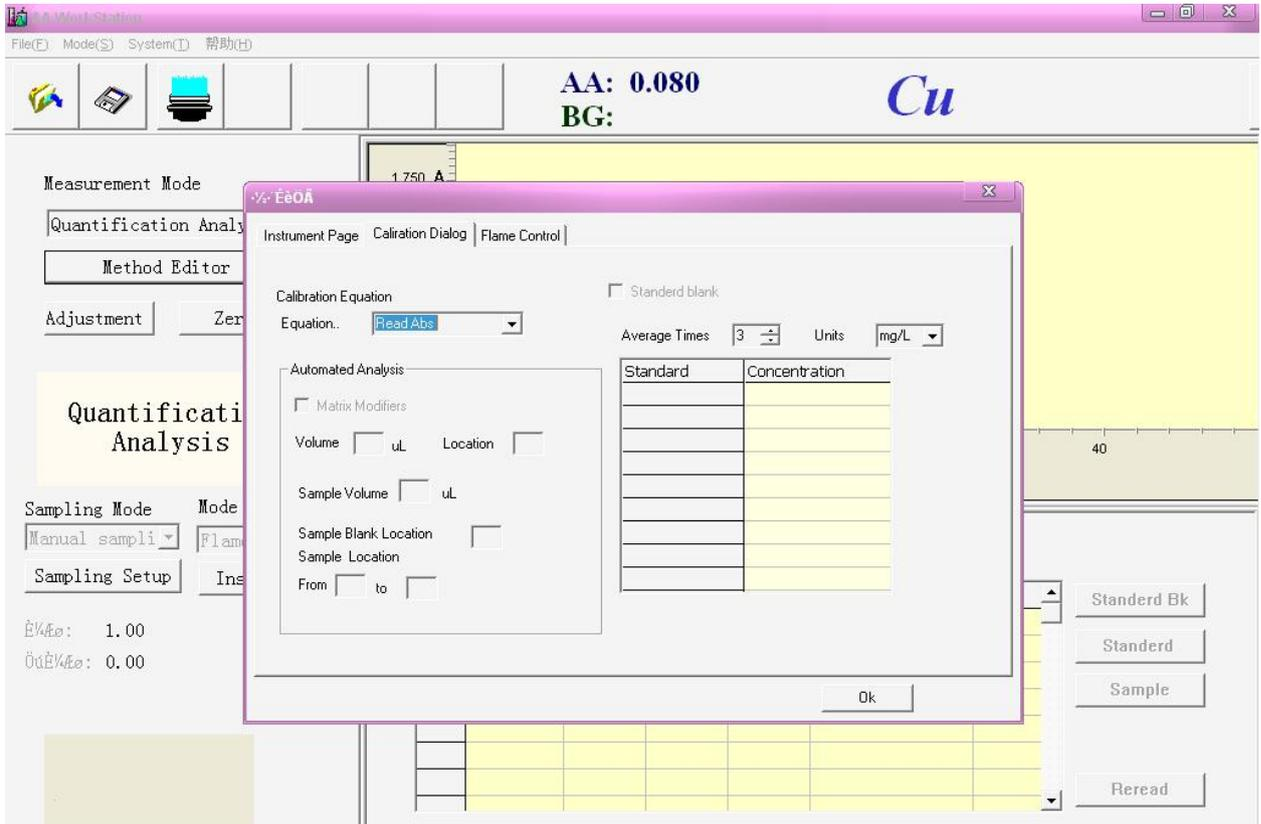

Figure 5-3
7. Select the "Read Abs" in the "Calibration Equation" (Figure 5-3)